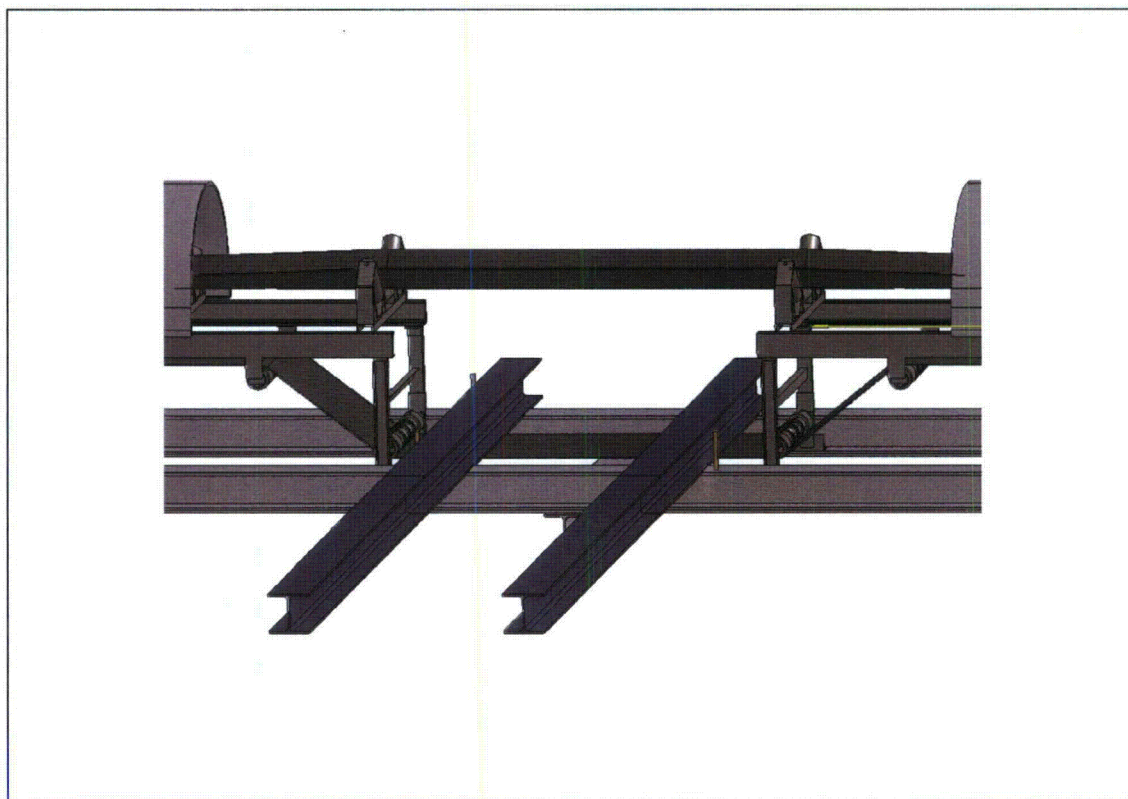

Figure 22 - Assembly aid for horizontal installation
- ☐ You will need an auxiliary structure made of double T-beams and U irons for assembling the CNA unit (see Figure 22).